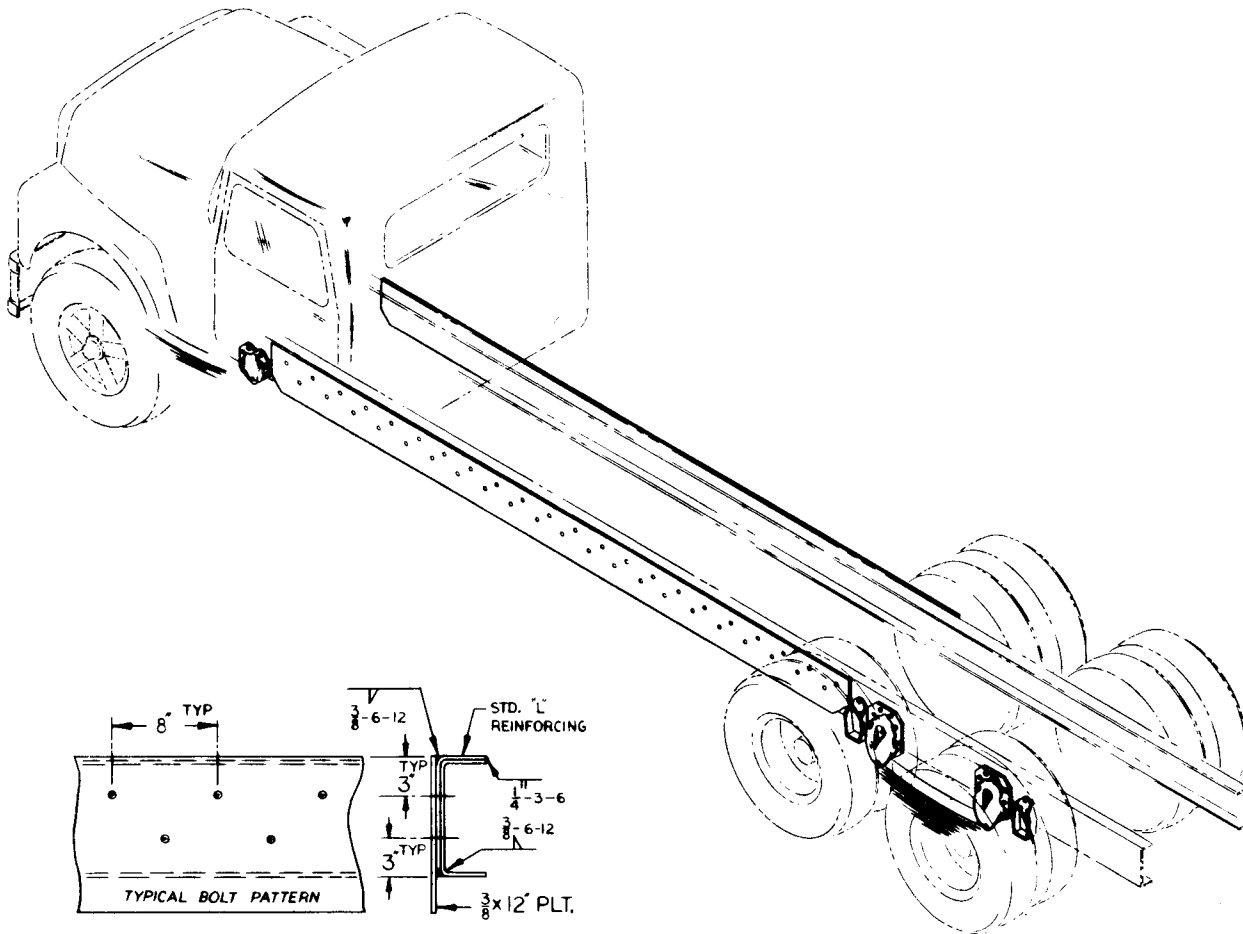

Figure H-1. Frame Reinforcement
4. Weld fishplate to "L" reinforcing angles (Figure H-1).
Do not weld on high-tensile frames. The heat generated by welding can cause structural damage to the truck frame resulting in a frame failure. Bolt fishplate utilizing pattern in Figure H-1. Use 3/4-8 NC Grade 6 or 8 bolts, hardened washers both sides and self-locking nuts. Torque according to Torque Data Table in the Appendix.